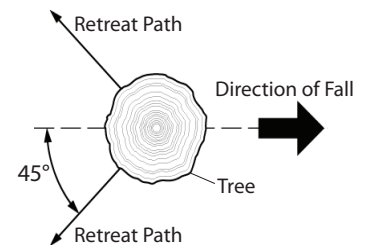

Figure 14 - Retreat Path From Tree
3. Plan and clear a retreat path before felling. Make retreat path opposite to planned direction of fall of tree and at 45° angle (see Figure 14).